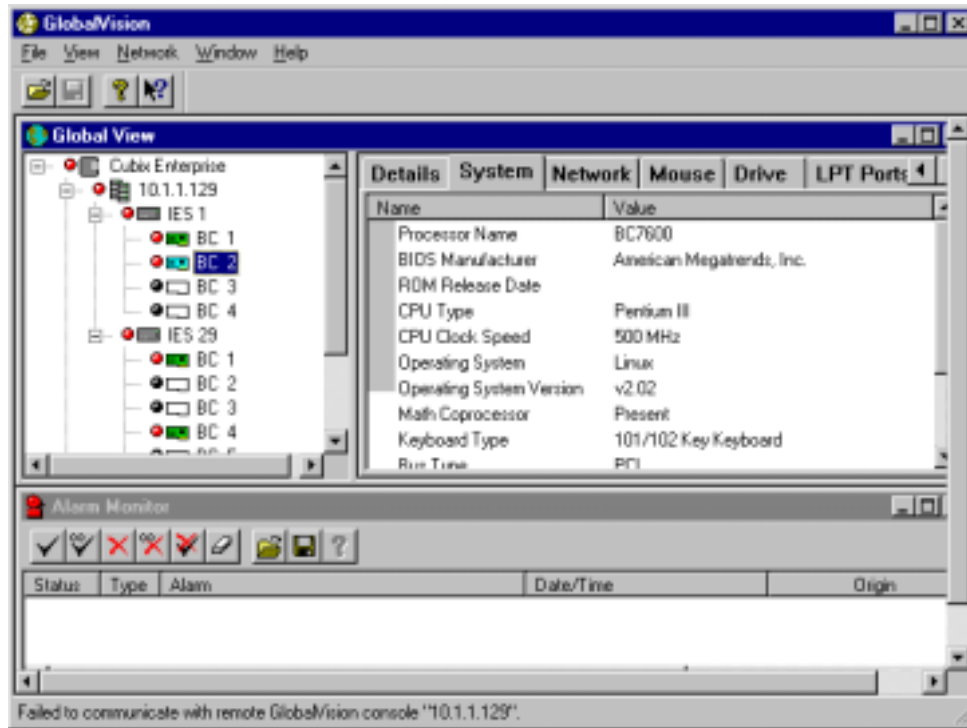

Figure 76 – Global View Window with Modified System Information
21. The following screen shot (Figure 76) is an example of how the information entered from Figure 75 appears within the Global View window. Under the Cubix Enterprise you will see the IP address of the GlobalVision Console. The IES number must (IES 1) match the IES Datahighway Address. The BC number (BC 2) matches the Slot Number where the board has been installed. The Processor Name on the left (BC7600) matches the System Board Description as it has been entered into the system.